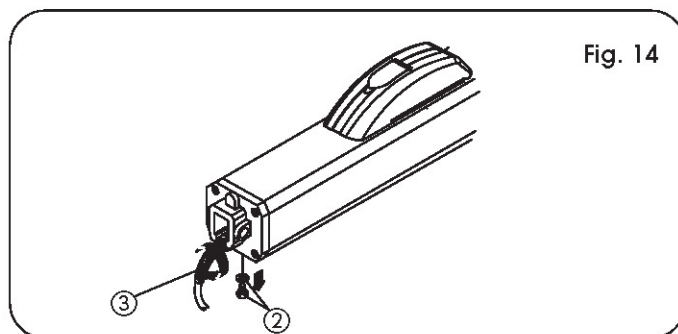

Fig. 14
- A) Insert the two anti-vibration spacers (2) onto the front flange.
- B) Introduce the housing, pressing it firmly on the rear cover (1).
- C) Secure the housing with the self-tapping screw (3).
- D) Fit the front cover (5) on the housing and fasten it with FIX plug (4).
13) Fit the electric cable bend guard (ref. 3, Fig. 14).
- Remove the breather screw (Fig. 14, ref. ②)